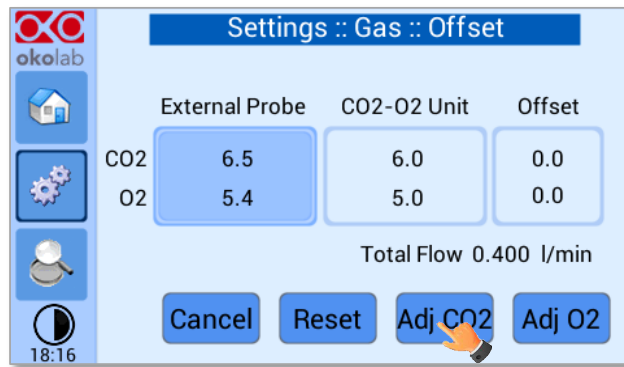

Figure 34. Manual Calibration Correction.
Note ► The Touch Screen will go back to the previous screen. It will display on the left (*External Probe* tab) the CO₂ and O₂ levels read by the external Gas meter, as just input. The value in CO₂-O₂ Unit tab is the value read by CO₂-O₂-UNITL-BL [0-10; 1-18] (see Figure 34).
8. Press *Adj CO₂* (see Figure 34) and/or *Adj O₂* to make a calibration using the input value from LEO as a reference.